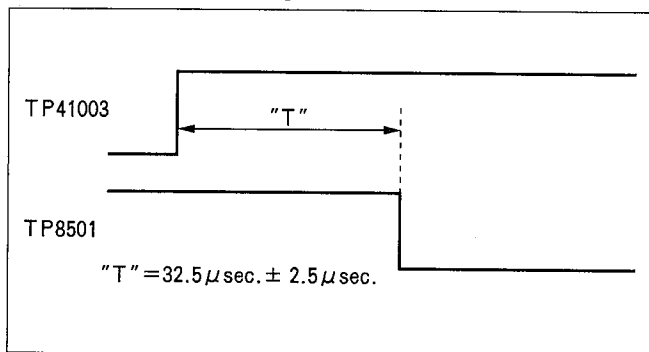

Figure E38-A
2. Adjust VR8501 so that the "T" becomes $32.5 \mu\text{sec} \pm 2.5 \mu\text{sec}$ as shown in Figure E38.